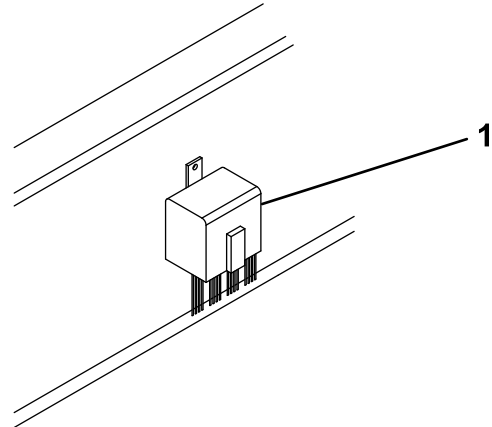

Figure 22
29. Mount the relay pack to the inside of the engine compartment using a sheet-metal screw (Figure 22).